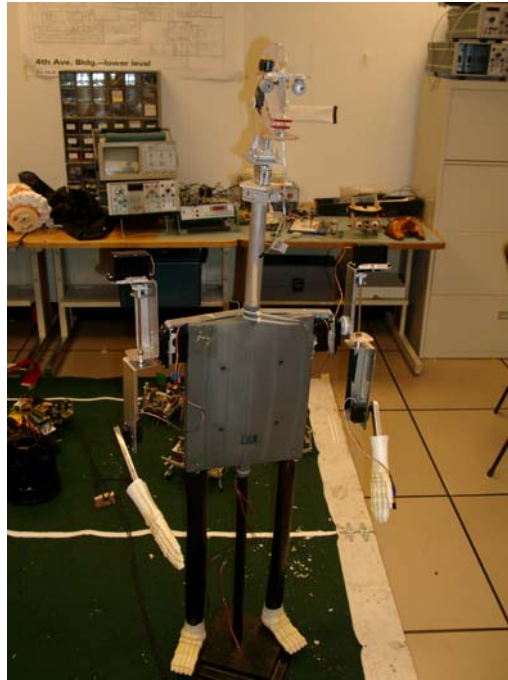
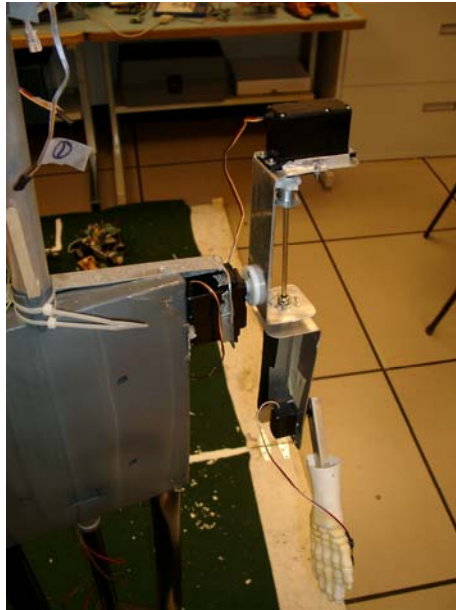

Fig. 1: The frame of “The Frank” robot after resurrection.
Fig. 3: Robot's shoulder. As you can see it isn't at it's right position
- every time when the robot moved a arm, it dragged the shirt at the shoulders. It made the big servos even stuck. The reason for that can be found in the original design. The shoulder joint is not where it is supposed to be. The robot’s arm overtops the shoulder (Fig. 1 and Fig. 3). Therefore the joint is in the middle of the upper arm which is not natural.